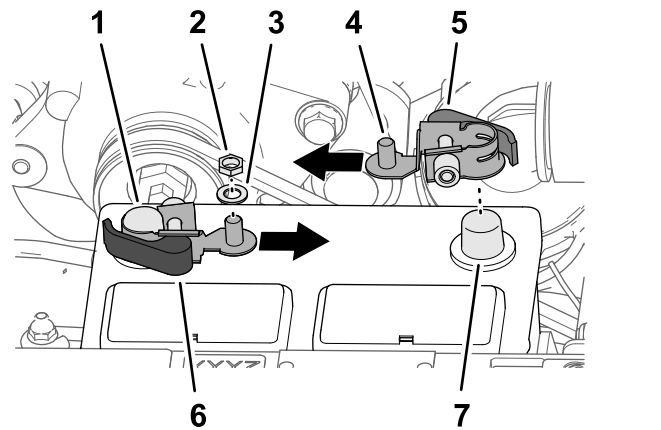

Figure 206
1. Remove the hex nuts and washers from the red and black handle quick-connect clamps (Figure 206).
- Assemble the quick-connect clamp onto the negative battery post, with the threaded post of the clamp aligned toward the center of the battery as shown in Figure 206.